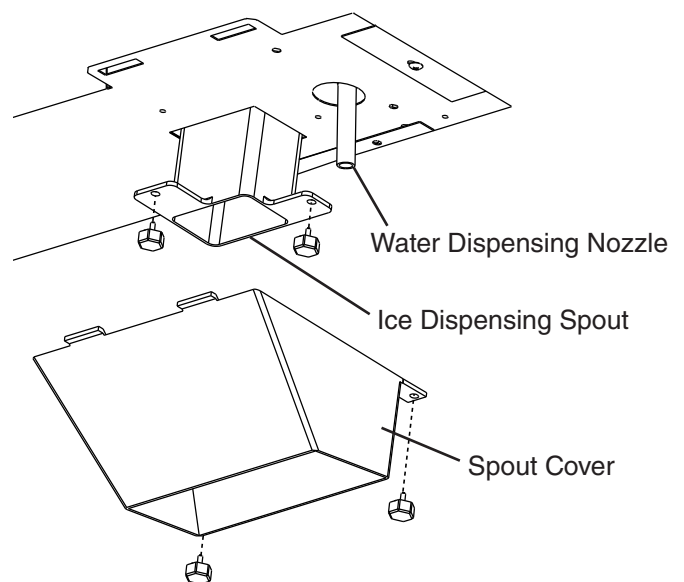

Fig. 11
- 8) Remove the spout cover, ice dispensing spout, and water dispensing nozzle. See Fig. 11. On DCM-700 models, also remove the ice guide, drain pipe holder, and drain pipe from the ice storage bin. See Fig. 9.